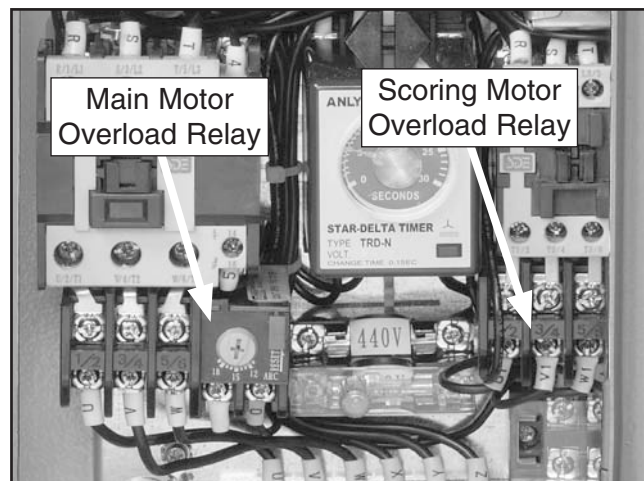

Figure 9. Motor overload relays.
4. Remove the main motor overload relay (see **Figure 9**) and replace it with the overload relay from the 440V conversion kit. Turn the dial on the main motor overload relay to 9A.